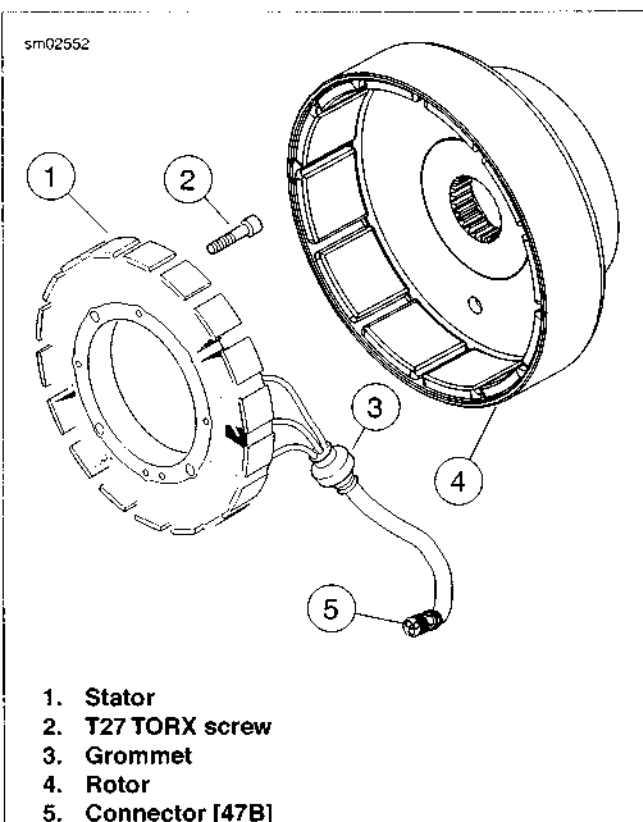

Figure 7-63. Rotor and Stator
5. See Figure 7-63. Remove alternator rotor (4). Two bolts can be inserted through the holes in the rotor face to aid during removal.
See Figure 7-63. Contact cleaner, alcohol or glass cleaner sprayed on rubber grommet (3) will provide lubrication when pulling it through crankcase hole.
6. Move grommet (3) to one side and spray lubricant into gap to lubricate grommet and ease removal. Repeat for other side.
7. Remove T27 TORX screws (2).
8. Remove stator (1) while pulling rubber grommet (3) and wires through crankcase hole.
2. See Figure 7-63. Push rubber grommet (3) with wires through crankcase hole. If necessary, apply the same lubricant used during removal.
3. Install the stator (1) on the crankcase and fasten in place using **new** TORX screws. Tighten to 55-75 **in-lbs** (6.2-8.4 Nm).
4. Mate connector [47] (5) onto voltage regulator and engage latch to secure. See 7.6 VOLTAGE REGULATOR.
5. Install rotor (4) on the sprocket shaft.